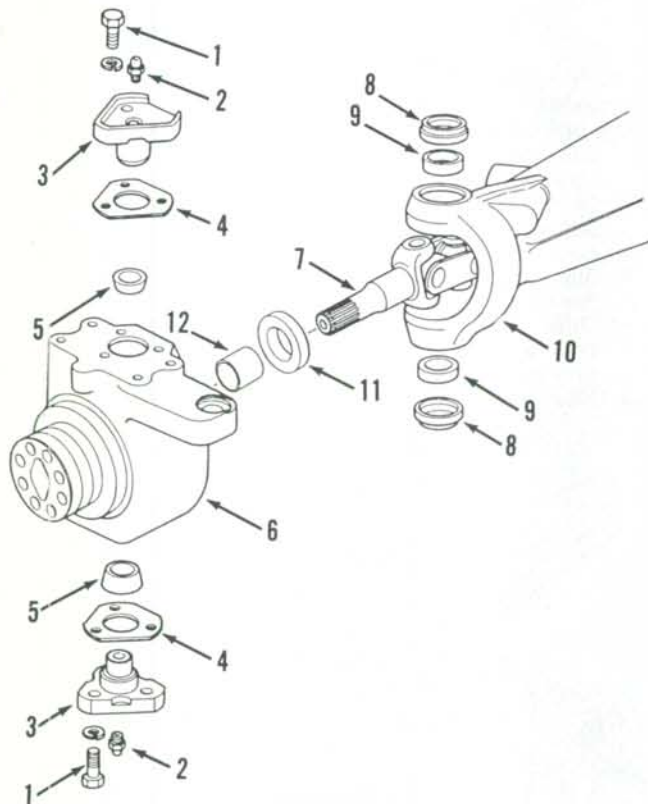
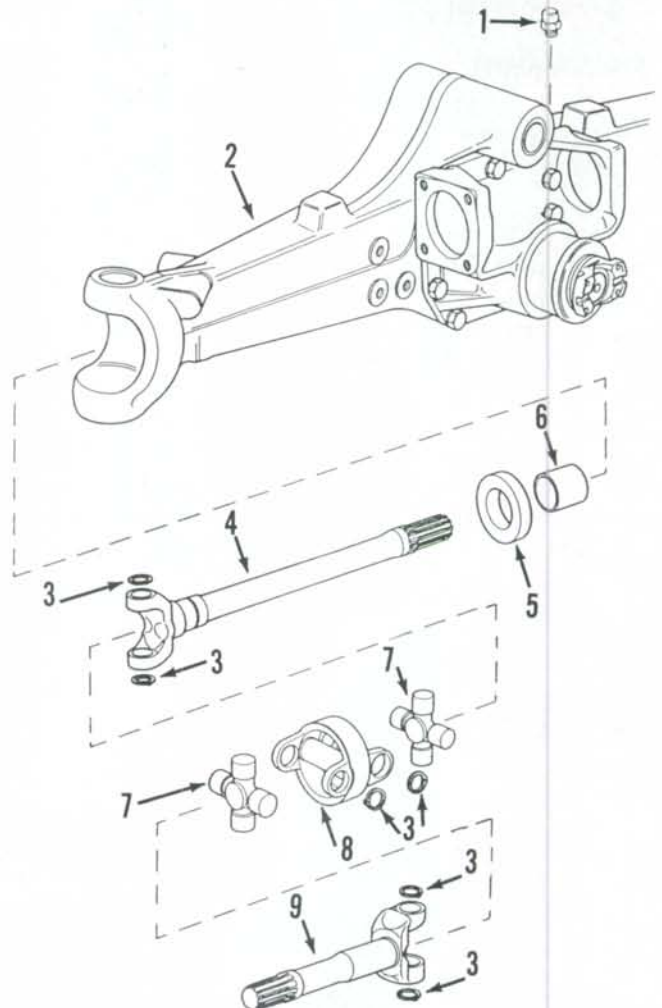

Fig. 7—Exploded view of pivot housing and components used on front drive axle.
Fig. 8—Exploded view of axle shaft assembly.
7. REMOVE AND REINSTALL. To remove the pivot housing (6—Fig. 7), first remove the wheel hub and planetary as outlined in paragraph 6. Disconnect tie rod end from steering arm. Remove cap screws (1), then remove pivot pins (3) with shims (4) and bearing cones (5). Lift off pivot housing (6). Remove oil seal (11) and, if necessary, remove bushing (12) from pivot housing. Remove oil seals (8) and bearing cups (9). Use a suitable puller to remove bearing cones (5) from pivot pins.
Withdraw axle shaft assembly (7). Remove oil seal (5—Fig. 8) and, if necessary, remove bushing (6).
Clean and inspect all parts and renew any showing excessive wear or other damage. "U" joint cross and bearings (7) are available only as a unit. Renewal of "U" joints is obvious after examination of the assembly and reference to Fig. 8.
When reassembling, use all new oil seals. Install seal (5—Fig. 8) in axle housing (2), then carefully install axle shaft assembly (7—Fig. 7). Install oil seal (11) in pivot housing (6). Install bearing cups (9) and oil seals (8) in axle housing (10). Carefully install pivot housing over outer axle shaft and axle housing. Install lower pivot pin (3) with bearing cone (5), but without shims (4). Tighten lower cap screws (1) to a torque of 83 N·m (60 ft.-lbs.). Install upper pivot pin (3) with bearing cone (5), but without shims (4). Use a jack under lower pivot pin to hold pivot housing upward. While holding down on pivot pin, use a feeler